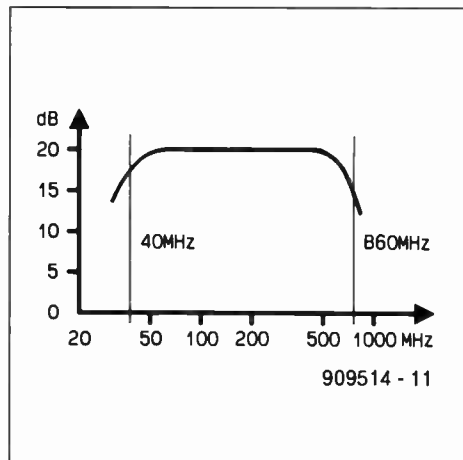

Fig. 1. Pass-band of the amplifier.
**B**URR-BROWN's REF200 provides in one 8-pin DIL package two independent current sources, either of which can supply 100 μA, and a 1:1 current mirror. The pinout of the device is shown in Fig. 1. Note that there are no pins for connecting a supply voltage. The correct operation of the current sources is, however, guaranteed when the potential across the source is not less than 2.5 V. The average drift with temperature is only 25 p.p.m./K. The output impedance is not less than 100 MΩ. The operating voltage must not exceed 40 V.
The amplifier is powered via the output coax cable. This arrangement is called a phantom supply. Figure 1 gives an indication of the RF performance that may be expected from the amplifier. It is seen that a gain of about 20 dB is achieved at frequencies between 40 MHz and 860 MHz.